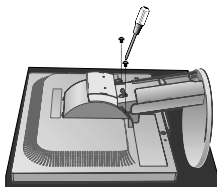

Figure S.2
3. Place monitor face down on a non-abrasive surface (Figure S.2).
4. Remove the 2 screws connecting the stand to the monitor (Figure S.2).